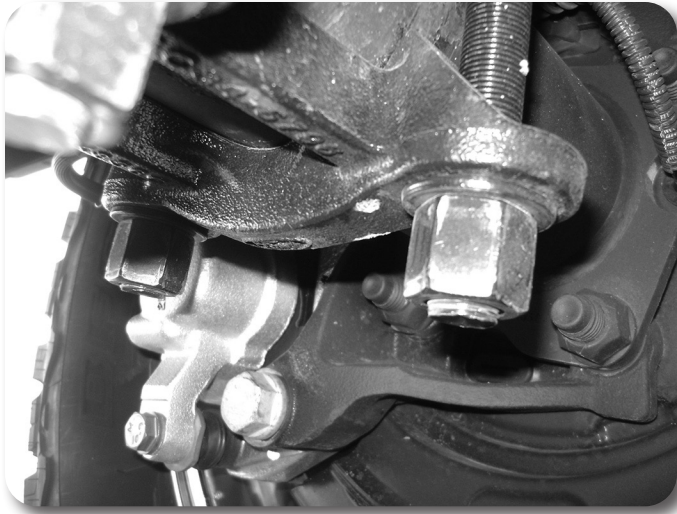

Figure 1
8. Raise the axle to engage the block spring alignment pins. Fasten the entire assembly with the provided u-bolts, washers, and nuts. Snug but do not torque the u-bolts at this time. **Figure 1**